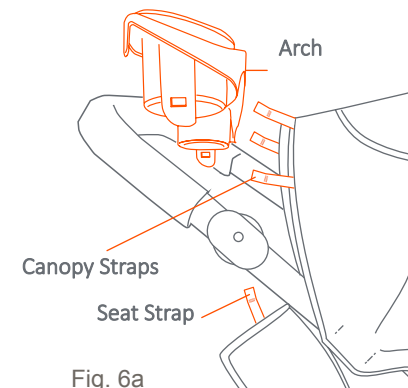

Fig. 6a
(1) Face the tray with the prominent arch side towards the canopy. Locate the three canopy straps and seat strap (Fig. 6a).